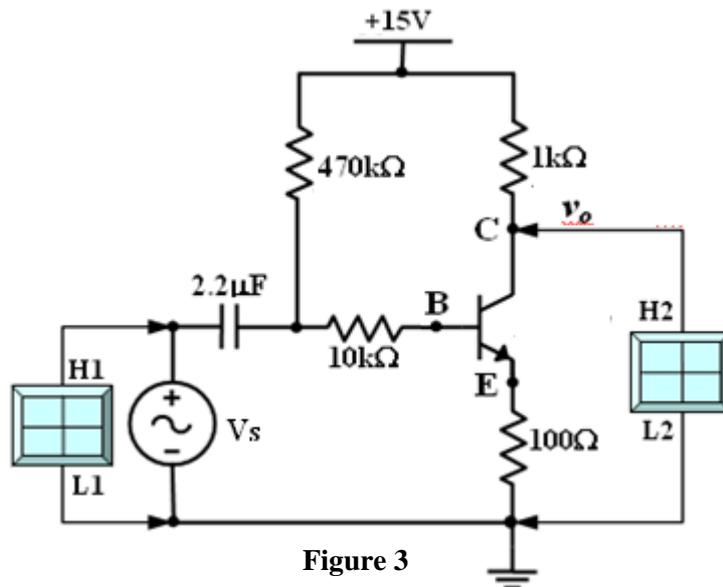

Figure 3
- Construct the circuit shown in Figure 3, using **BC107 BJT** and use $V_{CC} = +15$ V. (Make sure the BJT is connected with the correct leads). **Do not connect the Function Generator and the Oscilloscope channels.**
- Connect the Function Generator at the input of the circuit. Connect CH1 of the Oscilloscope to input voltage source and CH2 to the output such that the high terminal of CH2 is at the collector (C) as shown in Figure 3.
- 1- On the same circuit of Figure 3, connect the high terminal of the CH2 probe to the emitter (E).